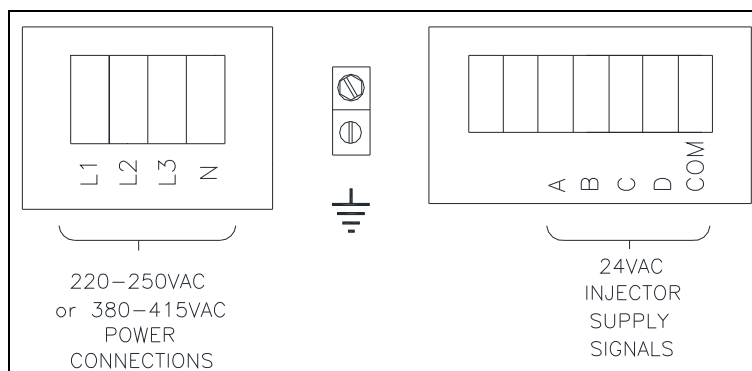

Figure 1-5: Electrical Connections and Chemical Supply Signals
- 1.7.1.2 Remove the rear panel near the upper left corner of the washer and locate the power terminal block near the back of the control compartment. Connections are as shown in Figure 1-5.
The washer control may be programmed to send six 24V output signals for a chemical injection system of up to four chemical sources. There are convenient electrical connection points for the injection pumps in the rear of the machine, as shown in Figure 1-5. The four independent pumps can be controlled through the signals A, B, C and D. The COM shown in Figure 1-5 is the common or return for these injection signals. For the injection sources, program codes 0 through 6 and their respective terminal block connections and combinations are as shown in Table 3.